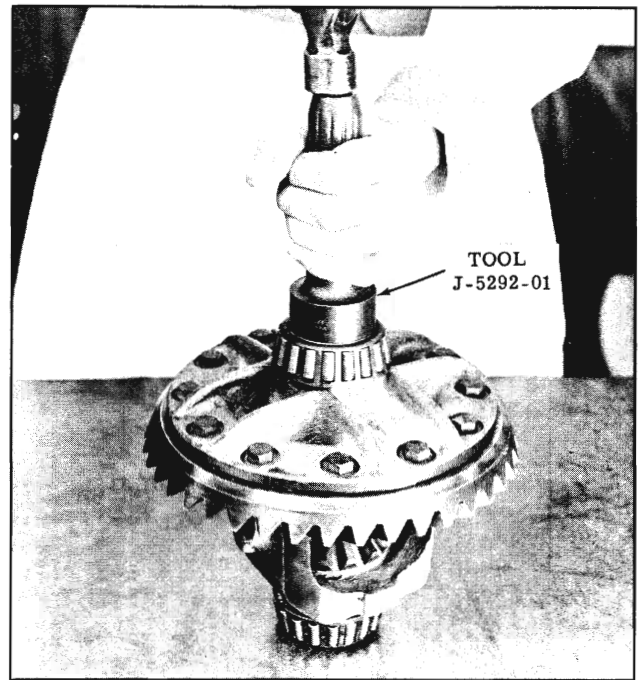

Fig. 6-26 Installing Side Bearings
2. If side bearings were removed, install as shown in Fig. 6-26.